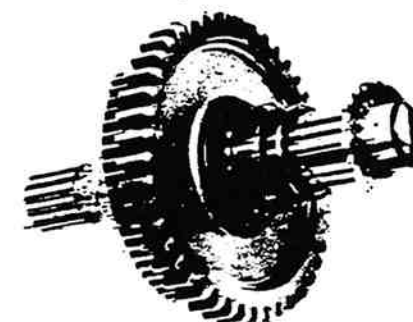

Figure 13-56. Removing Reverse Gear Spacer.
10. Remove the reverse gear spacer (figure 13-56).